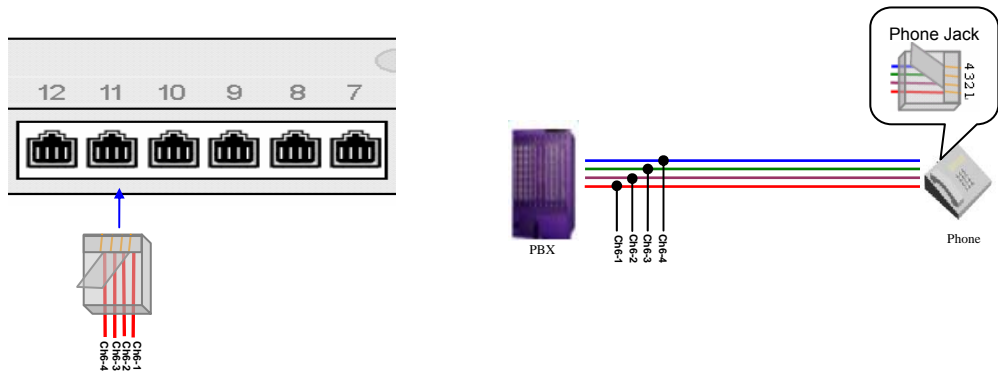

Figure 2-9
- 2) PHILIPS-4W and ISDN digital phones: Just follow the one-to-one relationship as shown in Figure 2-9 below for parallel connection.